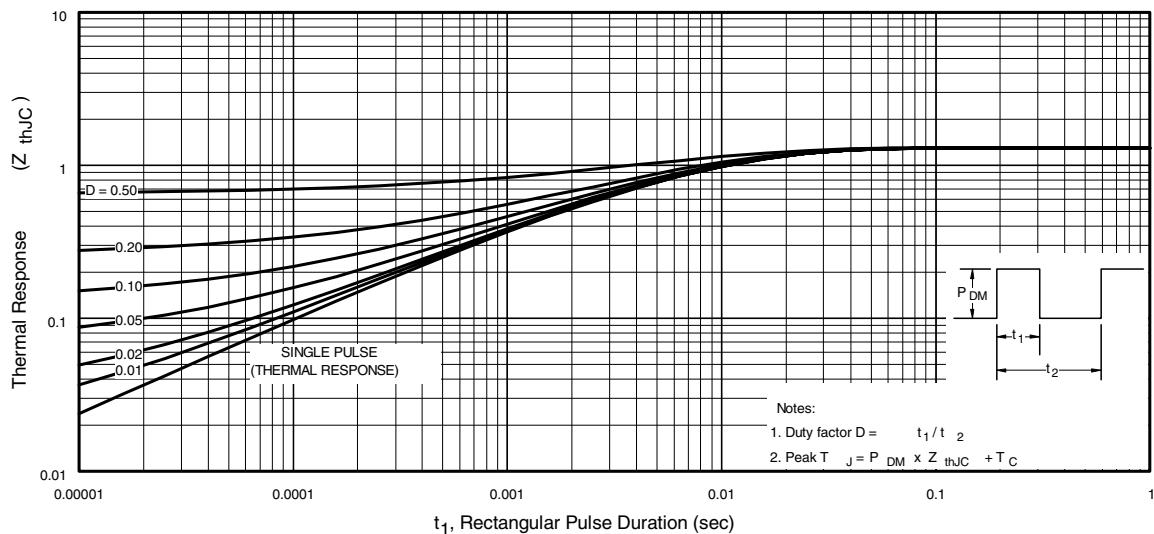
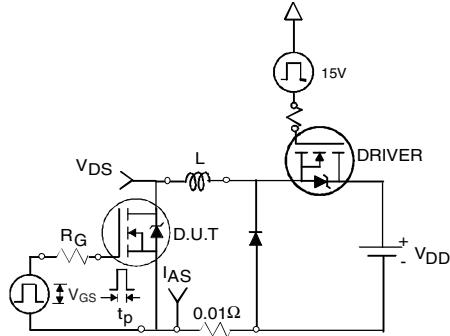

Fig 11. Maximum Effective Transient Thermal Impedance, Junction-to-Case
Fig 12a. Unclamped Inductive Test Circuit
3. Equation below based on circuit and waveforms shown in Figures 12a, 12b.
$Z_{thJC}(D, t_{av})$ = Transient thermal resistance, see figure 11)
- ① Repetitive rating; pulse width limited by max. junction temperature. (See fig. 11).
- ② Limited by $T_{J\max}$, starting $T_J = 25^\circ C$, $L = 0.45mH$, $R_G = 25\Omega$, $I_{AS} = 30A$, $V_{GS} = 10V$. Part not recommended for use above this value.
- ③ $I_{SD} \leq 30A$, $di/dt \leq 280A/\mu s$, $V_{DD} \leq V_{(BR)DSS}$, $T_J \leq 175^\circ C$.
- ④ Pulse width $\leq 1.0ms$; duty cycle $\leq 2\%$.
- ⑤ $C_{oss\ eff}$ is a fixed capacitance that gives the same charging time as C_{oss} while V_{DS} is rising from 0 to 80% V_{DSS} .
- ⑥ Limited by $T_{J\max}$, see Fig.12a, 12b, 15, 16 for typical repetitive avalanche performance.
- ⑦ This value determined from sample failure population. 100% tested to this value in production.
- ⑧ When mounted on 1" square PCB (FR-4 or G-10 Material). For recommended footprint and soldering techniques refer to application note #AN-994.